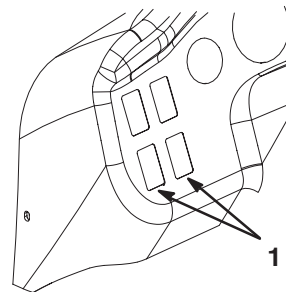

Figure 20
65. Remove a plug from one of the unused holes in dash panel (Fig. 20).